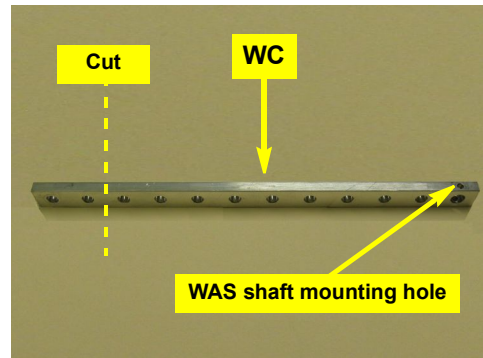

Figure 1b: WAS arm preparation
- b. Cut two holes off the WAS arm **WC** at the opposite end from the WAS shaft mounting hole (Figure 1b).